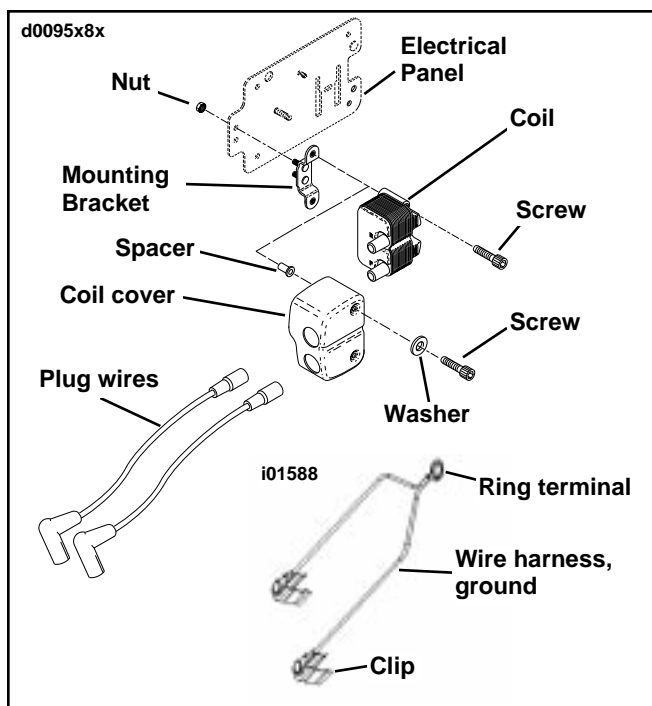

Figure 2. Dyna Braided Wire/Ground Wire
5. See Figure 2. Place the clips of the ground wire harness over the ferrules of the plug wires at the coil end.